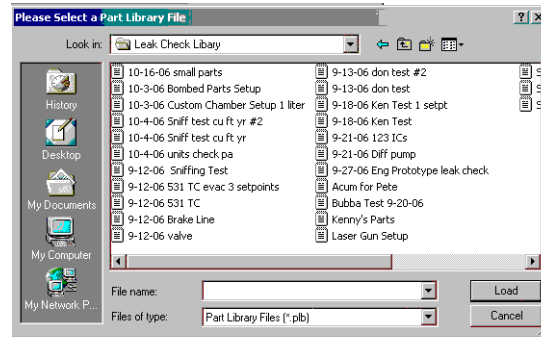

Figure 2-19 Save Dialog Box
3. Click **Load** and Figure 2-19 appears.